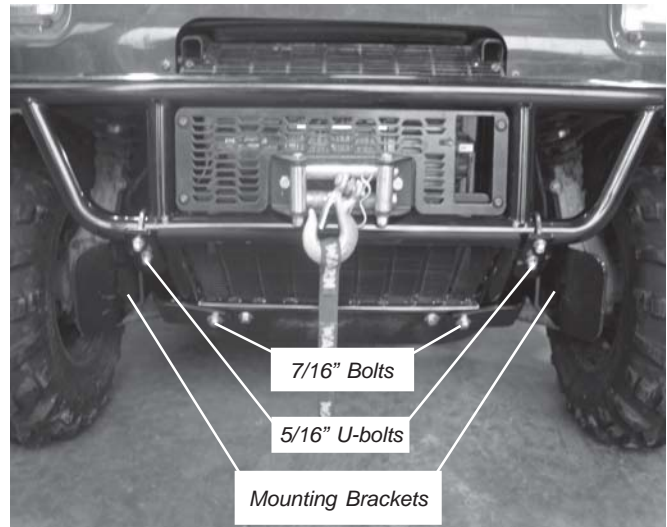

Figure 10 Installation of mounts.
8. If not already done so, loosely install the left and right mounting bracket assemblies using the 5/16" x 1 1/2" U-bolt, flat washers and lock nuts. Loosely install the lower 7/16" x 1 1/4" bolts, washers and lock nuts. See Figure 10.